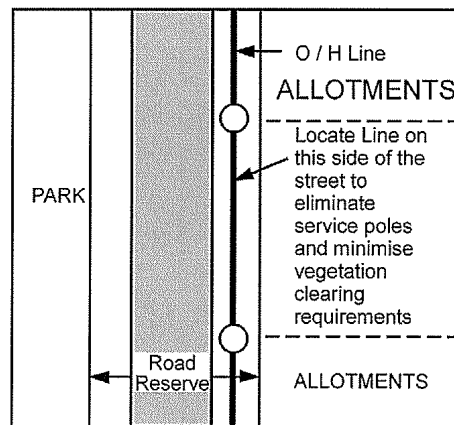

Figure 2: The advantage of careful pole positioning
- 4) **Customer service poles:** consideration should also be given to any advantage that may be achieved by positioning poles on the side of a street that will minimise the number of customer service poles required when service connections are run across the road, as shown in Figure 2.
- 5) **Vegetation clearing:** it is important to minimise the impact Western Power's assets have on the environment. Therefore, consideration should be given to positioning poles on the side of the road that will minimise the need for vegetation-clearing, as shown in Figure 2.